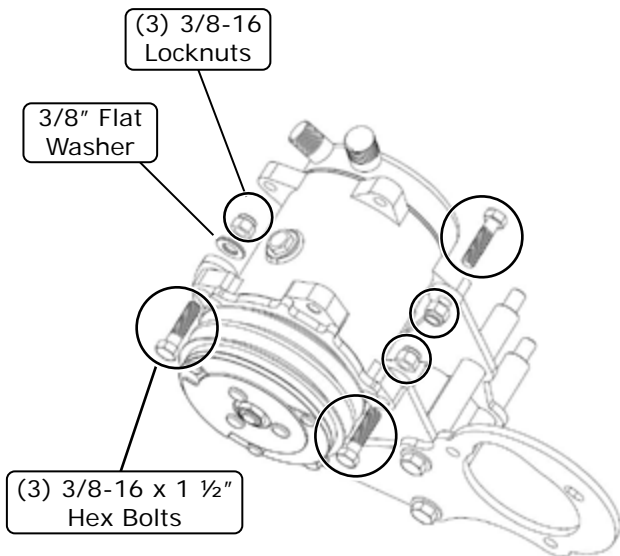

Figure 3
5. Using (3) 3/8-16 x 1 1/2" hex bolts and (3) 3/8-16 locknuts, loosely install the compressor onto the bracket (See Figure 3, below). **NOTE: There is (1) 3/8" flat washer supplied in the kit. It installs on the bracket side of the adjustment slot. Hardware will be tightened later after the belt is installed.**